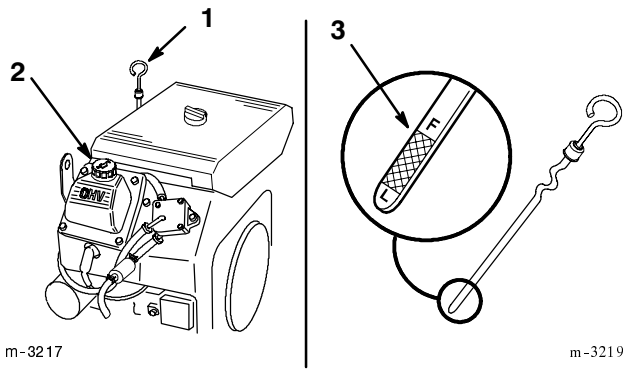

Figure 27
2. Clean around the oil dipstick (Fig. 27) so dirt cannot fall into the filler hole and damage the engine.
3. Pull the oil dipstick out and wipe the metal end clean (Fig. 27).
4. Slide the oil dipstick fully into the filler tube. Pull the dipstick out and look at the metal end (Fig. 27). If oil level is low, slowly pour only enough oil into the filler tube to raise the level to the “FULL” mark.